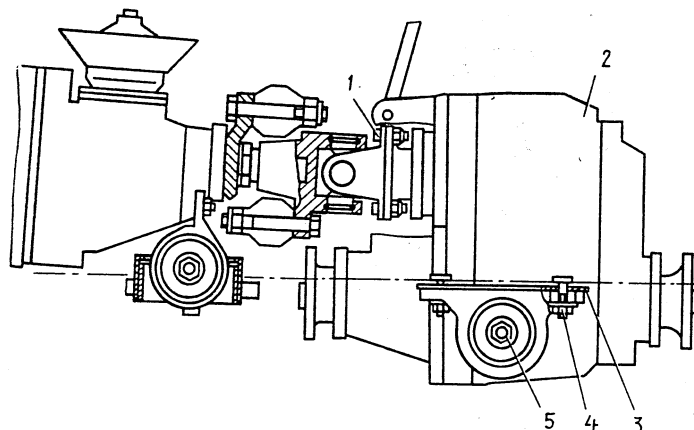

Fig. 3-34. Transfer Case Installation Diagram
- install the transfer case on the car without tightening completely nuts 4 and 5 (Fig. 3-34) of the transfer case mounting brackets;